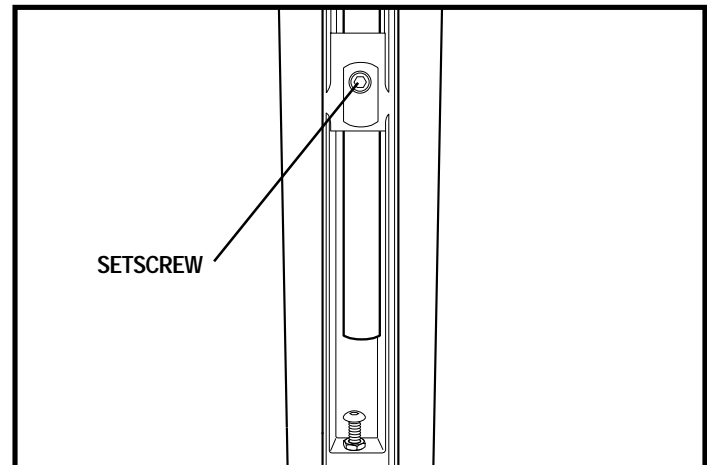

Figure 22. Underside of Armrest
4. Flip up the armrest and loosen the setscrew. See figure 22.